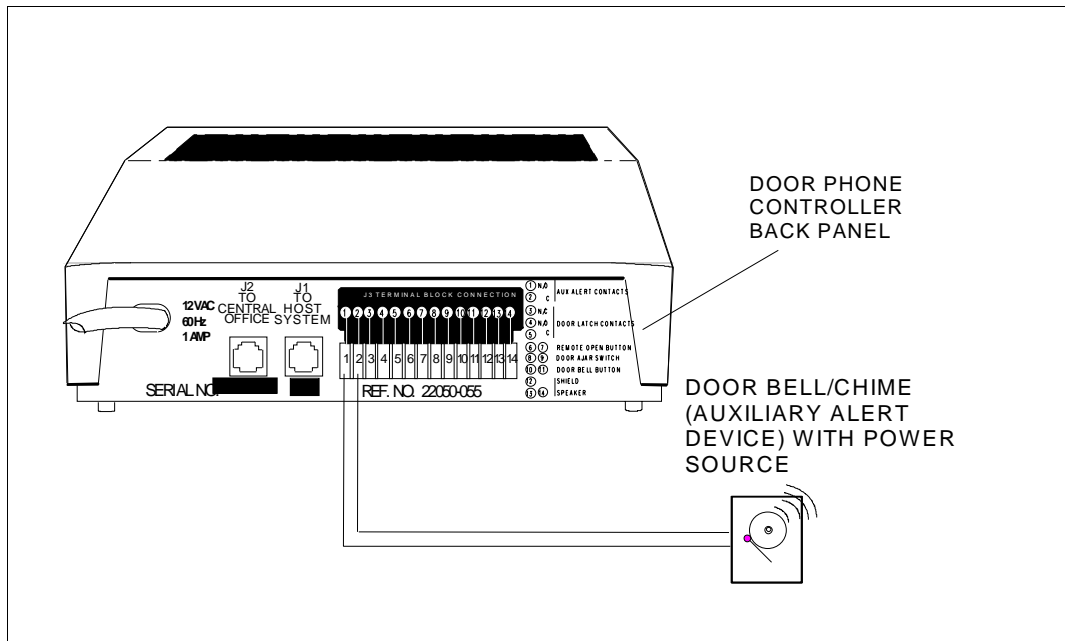

Figure 2-7. Connections for Auxiliary Alert Device (Optional)
In most configurations, the Door Phone Controller will cause a telephone to ring when the doorbell button is pushed. An auxiliary alert device (chime, bell, horn, tone generator, etc.) can also be used as an alert to notify the person inside the building that the doorbell button has been pushed (Auxiliary Alert Mode). A low-voltage device (24V or less) is recommended. Follow the steps below (refer to Figure 2-7) for wiring auxiliary alert device (door bell/chime) to the Door Phone Controller:
2. The Normally Open (N.O.) and Common (C.) relay contact, located on the Door Phone Controller back panel (see Figure 2-7), are accessible at the Door Phone Controller terminal block. Wire these to the auxiliary alert device and its power source as instructed by the manufacturer's installation manual.